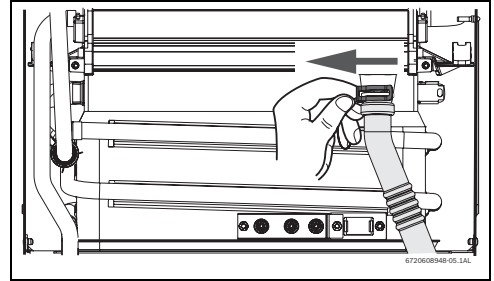

Fig. 33
- Remove the clip and disconnect the drain tube, see Fig. 33 .